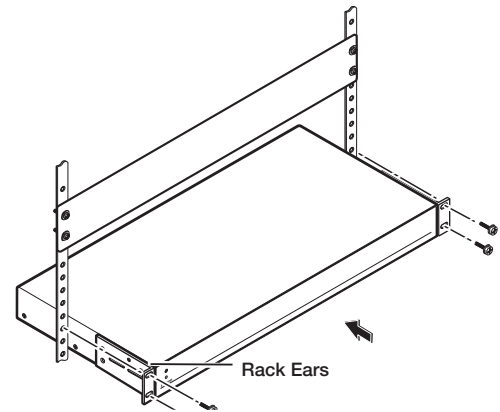
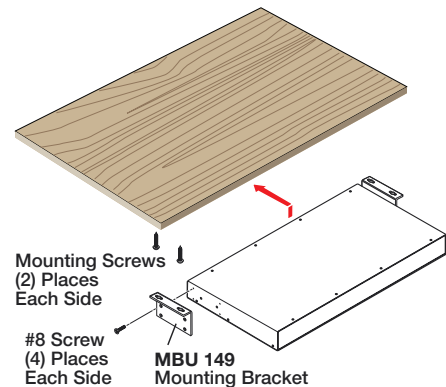

Figure 1. Rack Mount
Figure 2. Furniture Mount
- b. Mount the Annotator 300 to a rack using the pre-installed rack ears (see figure 1), or use an optional MBU 149 mounting kit (part number 70-222-01) for under-the-desk mounting (see figure 2).